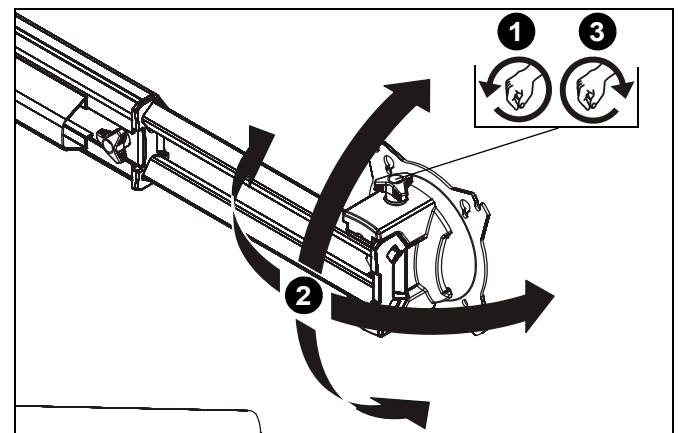

Figure 28
1. Loosen knob on top of faceplate assembly. (See Figure 28)
2. Adjust pitch, roll and/or yaw as desired. (See Figure 28)
3. Tighten knob to secure desired faceplate position. (See Figure 28)